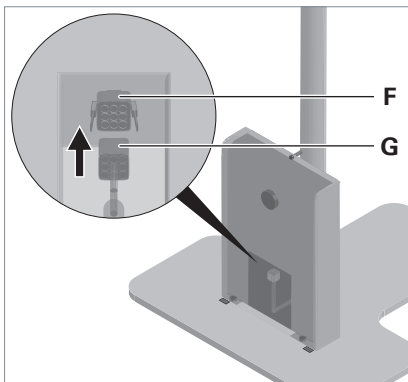

Fig. 4: Connecting the supply unit.
- ▶ Plug the plug **G** into the socket **F**, see Fig. 4.